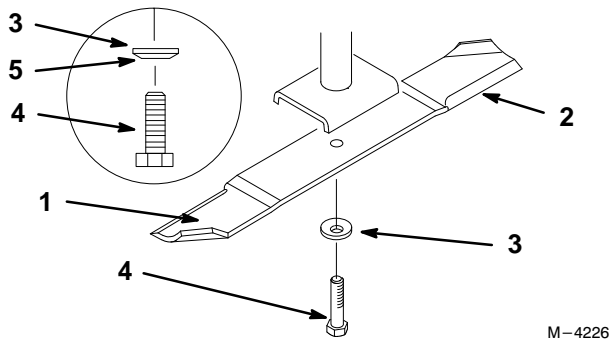

Figure 20
1. Hold the blade end using a rag or thickly-padded glove. Remove the blade bolt, spring disk and blade from the spindle shaft (Fig. 20).
2. Check the balance of the blade by putting it on a blade balancer (Fig. 19). If the blade stays in a horizontal position, the blade is balanced and can be used. If the blade is not balanced, file some metal off the end of the sail area only (Fig. 20). Repeat this procedure until the blade is balanced.
1. Install the blade onto the spindle shaft (Fig. 20).
2. Install the spring disk and blade bolt (Fig. 20). Torque the blade bolt to 85–110 ft-lb (115–150 N•m).